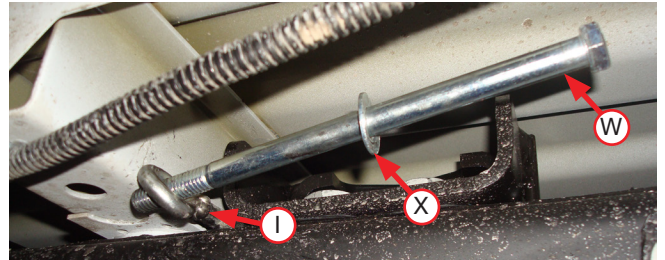

Fig. 23
- Insert the 3/8" Hex cap screw (W) through a 3/8" flat washer (X), then all the way through the eye of the L-bolt (Fig. 23).